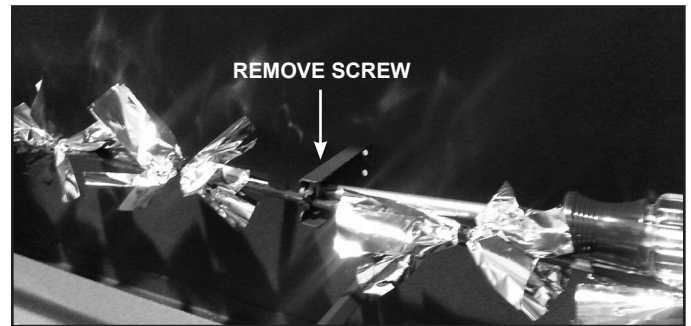

Figure 9 Center Bracket - Flame Rod
- Remove screw in the center bracket that is holding the Flame Rod in place. See Figure 9.